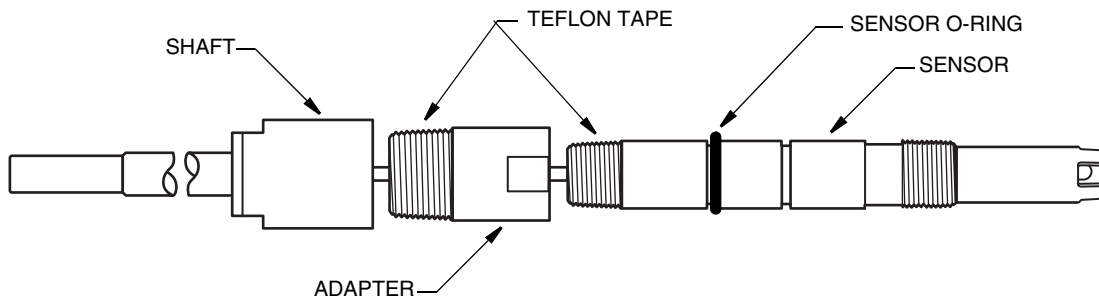

Figure 1. Installation When Replacing an 871A Sensor
2. Lubricate the sensor O-ring and place it in the groove closest to the cable end of the sensor as shown in Figure 1 or 2. For an 871PH sensor, replace the shaft O-ring also.